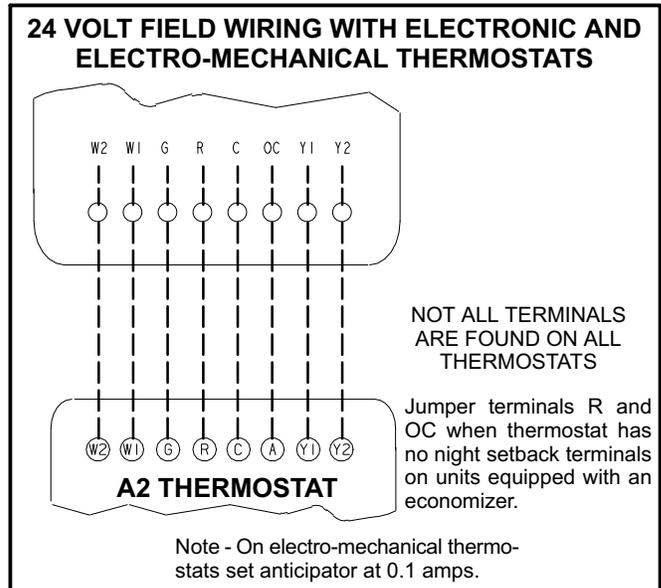

FIGURE 5
- 3- Connect thermostat wiring to TB1 terminal board on the left side of the controls area. Wire as shown in figure 5 for electro-mechanical and electronic thermostats. If using other temperature control devices or energy management systems see instructions and wiring diagram provided by manufacturer.